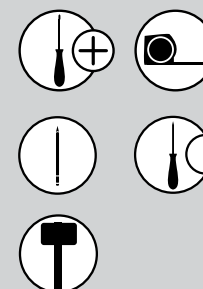
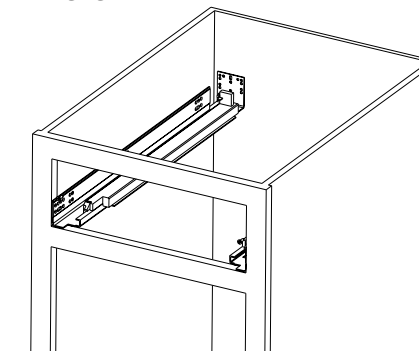

FIG. G-1
FIG. G-2
Attach both the left and right Blum slides to the cabinet by sliding them onto their corresponding rear brackets (See Figure G-1). Screw the slides to the face frame cabinet with (2) #8 x 5/8" wood screws for each side (See Figure G-2).